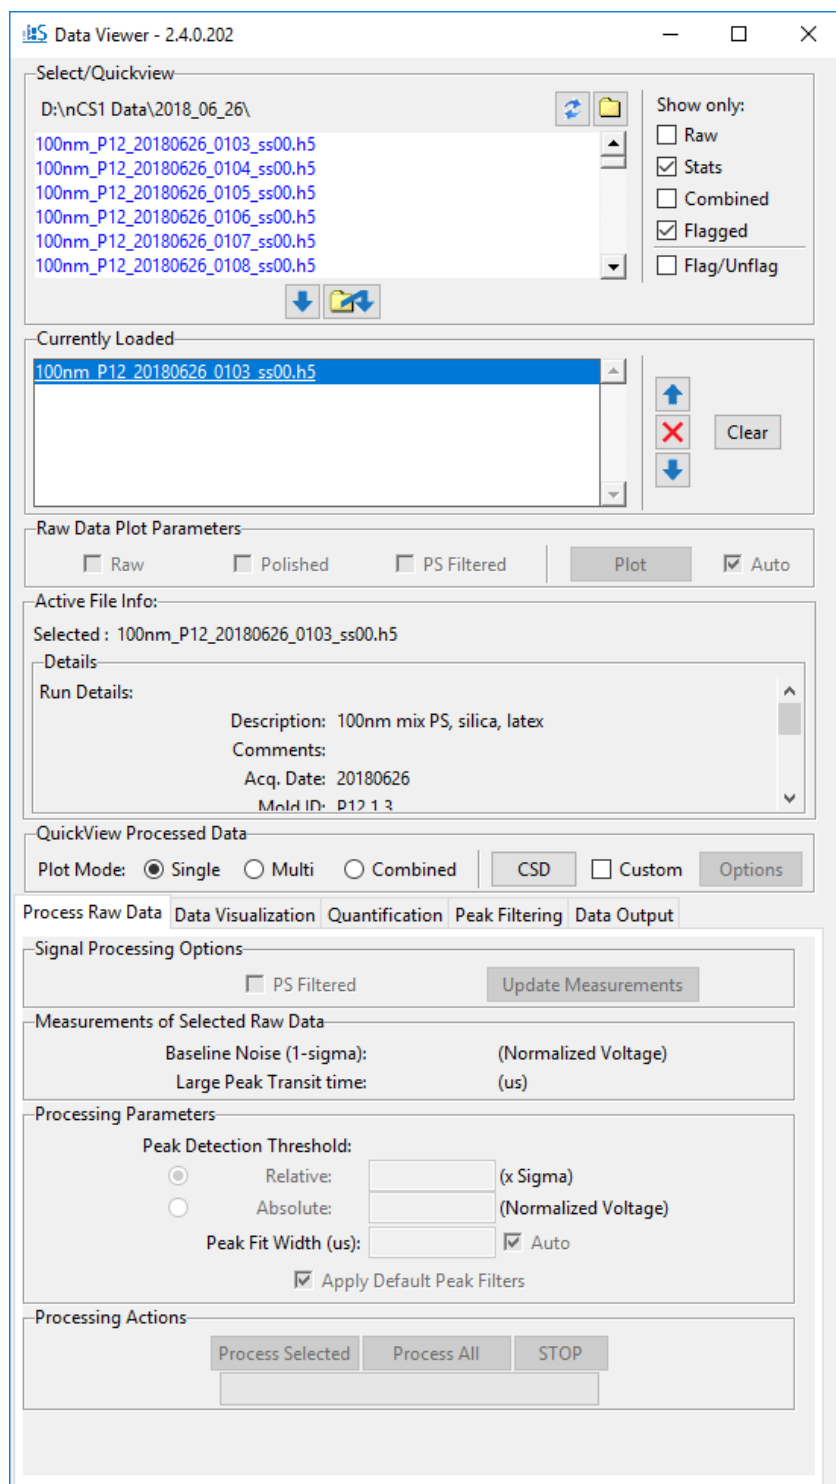

Figure 14. Overview of the Spectradyn Viewer software user interface.
- In the Select/Quickview frame (Figure 14), use the folder icon to the right of the current path to navigate to the location of the raw data.